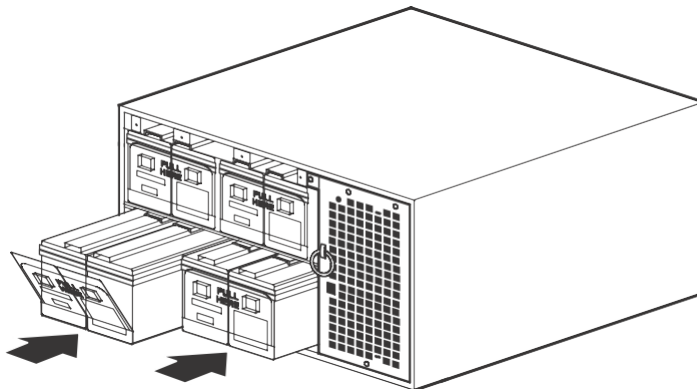
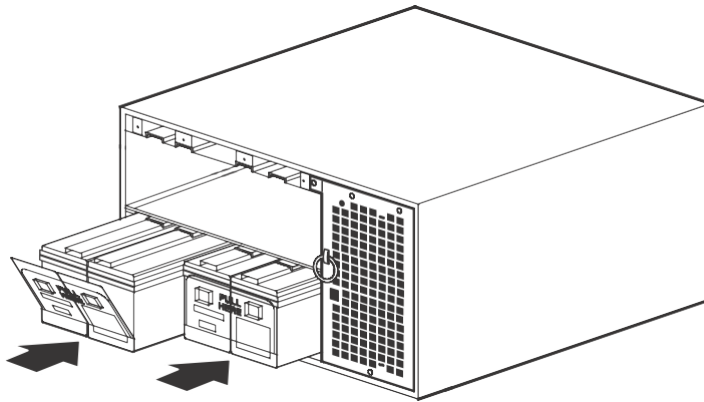

Figure 27. Installing the UPS Battery Trays (Two Strings)
Figure 28. Installing the UPS Single-string Battery Trays for 5.0 kVA BladeUPS
4. Slide the battery trays into the cabinet (see Figure 27 for two battery string installations or Figure 28 for single-string installations). Verify that each tray is properly aligned before sliding in the tray.